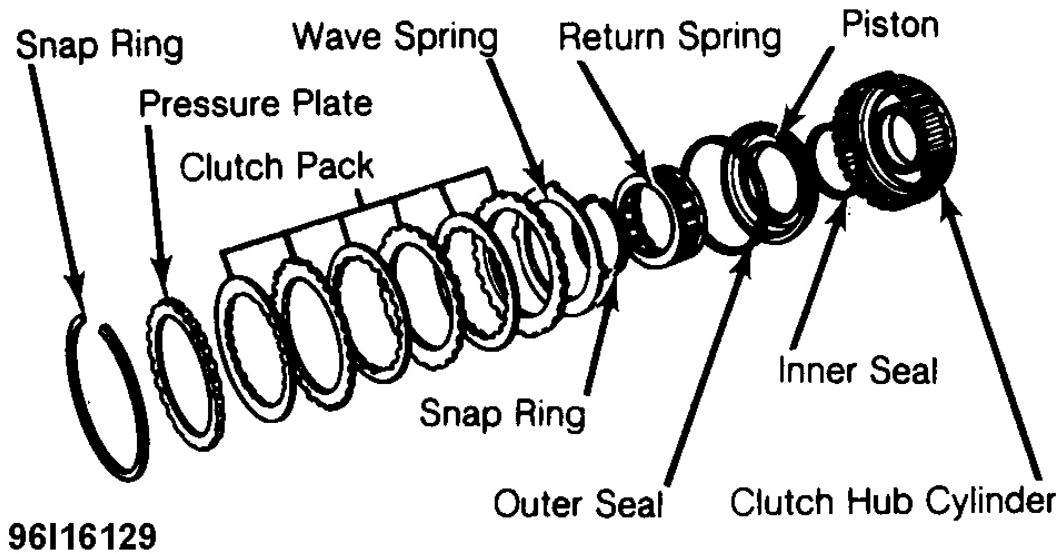

Fig. 22: Exploded View of Forward Clutch Assembly
Remove snap ring, pressure plate, clutch pack and wave spring. See **Fig. 22** . Using Compressor (T65L-77515-A), remove snap ring and return springs. Remove piston assembly from hub. Remove piston inner and outer seals.
1. Install inner and outer seals (seal lip facing bottom of cylinder). Using Seal Lip Protector (T86P-70548-A), install piston assembly. Using compressor, install return springs and snap ring. Install wave spring, clutch pack, pressure plate and snap ring. See **Fig. 22**.